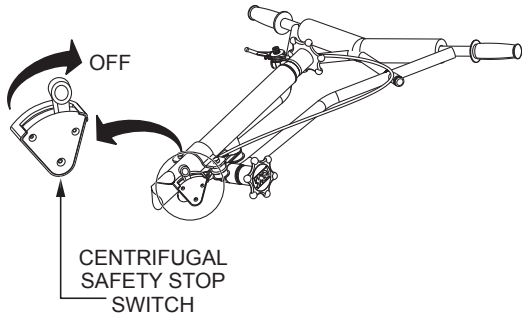

Figure 33. Centrifugal Safety Stop Switch (OFF)
2. With the engine running at idle, place the safety stop switch lever in the **OFF** position (Figure 33). Verify that the engine shuts off. If the engine continues to run, replace the centrifugal safety stop switch.